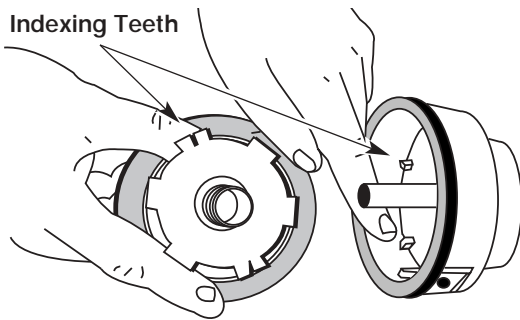

Figure 14
- Check the indexing teeth on the inner reel and outer spool for wear. If necessary, remove burrs or replace the reel and spool. See Figure 14.